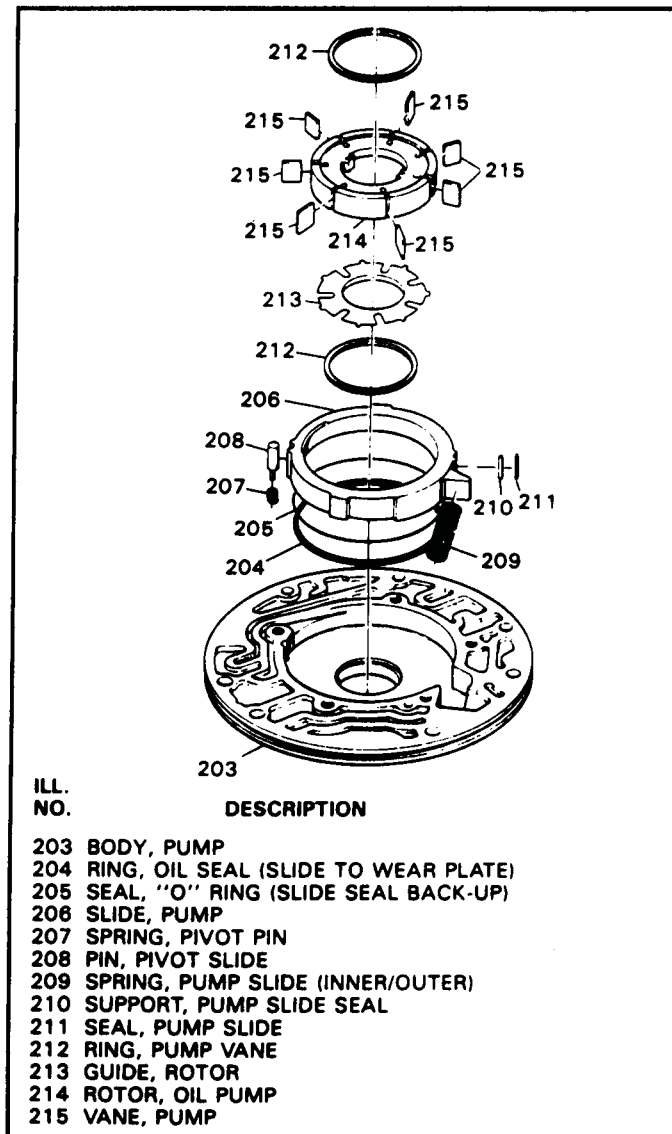

Figure 130
5. Install new "O" ring (205) and oil seal ring into the groove on the back side of pump slide, as shown in Figure 130.
10. Install both of the pump slide springs as shown in Figure 130.
11. Install rotor guide (213) onto the pump rotor and retain with "Trans-Jel" (See Figure 130).
13. Install pump rotor and guide assembly into the pump pocket with guide towards pump pocket (See Figure 130).
14. Install seven vanes (215) into the pump rotor as shown in Figure 130.
15. Install the remaining vane ring (212) into the pump rotor as shown in Figure 130.